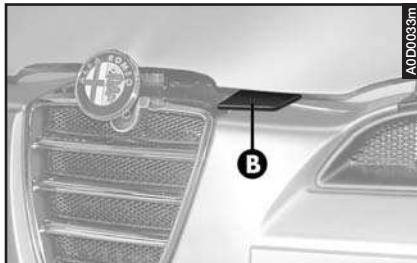

fig. 9
- Raise the safety lever upwards (**B-fig. 9**).